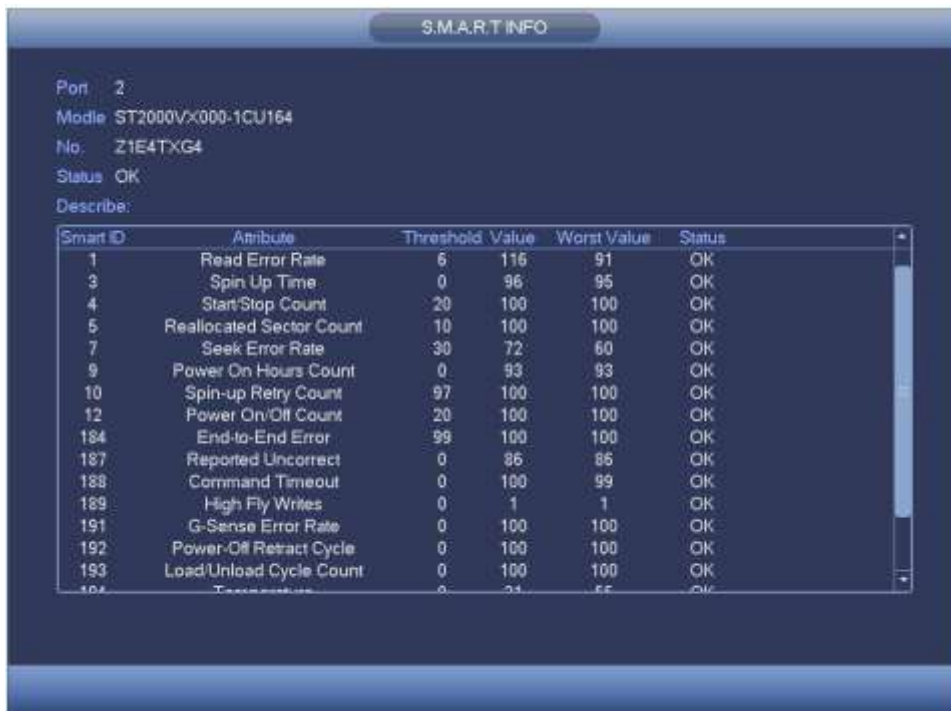

Figure 4-85
- SMART: Display HDD information. See Figure 4-85.
Double click one HDD information; you can see the HDD SMART information. . See Figure 4-85.